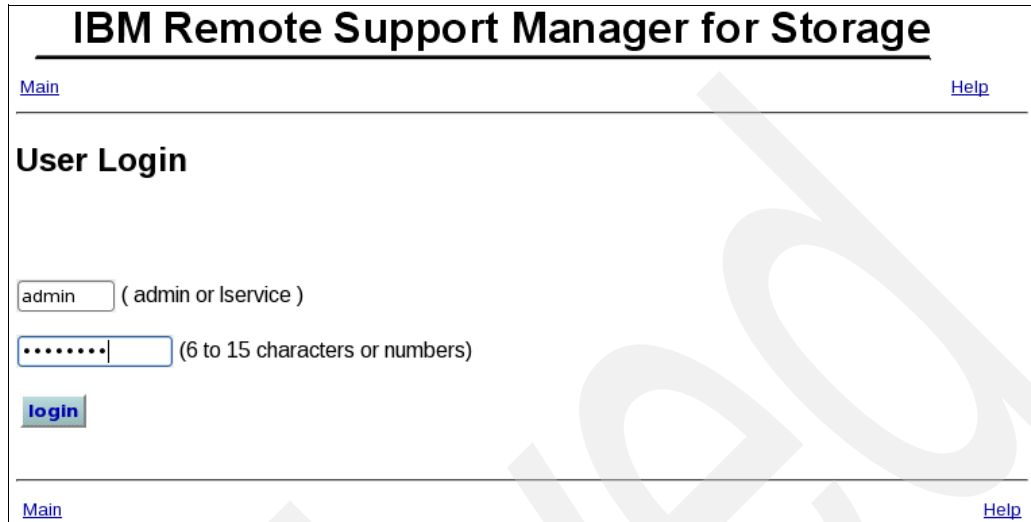

Figure 6-9 RSM logon window
2. Click **Login** and enter the user name and password of the RSM administrator. This account is named admin and the password was defined during the installation of RSM. See Figure 6-9.